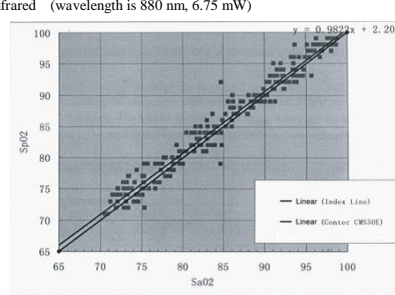
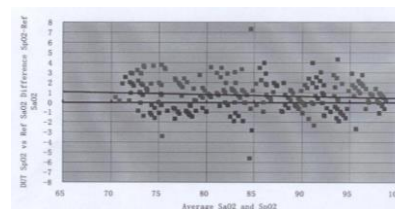

Figure 2 SpO2 regression plot
Figure 3 Bland-Altman plot
- 5) **Measurement Accuracy:** ±2% in stage of 70% - 100% SpO2, and meaningless when stage being smaller than 70%. ±2 bpm during the pulse rate range of 30 - 99 bpm and ±2% during the pulse rate range of 100 ~ 250 bpm. Clinical Trial :SpO2 regression plot & Bland-Altman plot, Refer to Figure 2 & Figure 3.